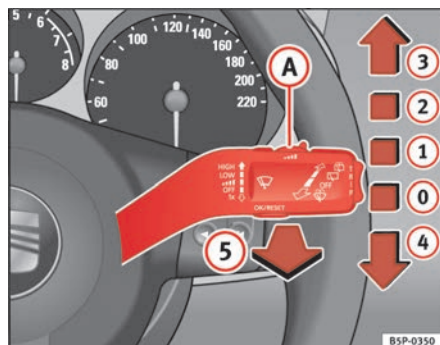

Fig. 85 Windscreen wiper and windscreen wash lever
The windscreen wiper lever ⇒ fig. 85 has the following positions:
- The next speed down will automatically be selected if wiper speed **(2)** ⇒ page 121, fig. 85 or **(3)** is selected when the vehicle stops. The set speed will be resumed when the vehicle starts again.